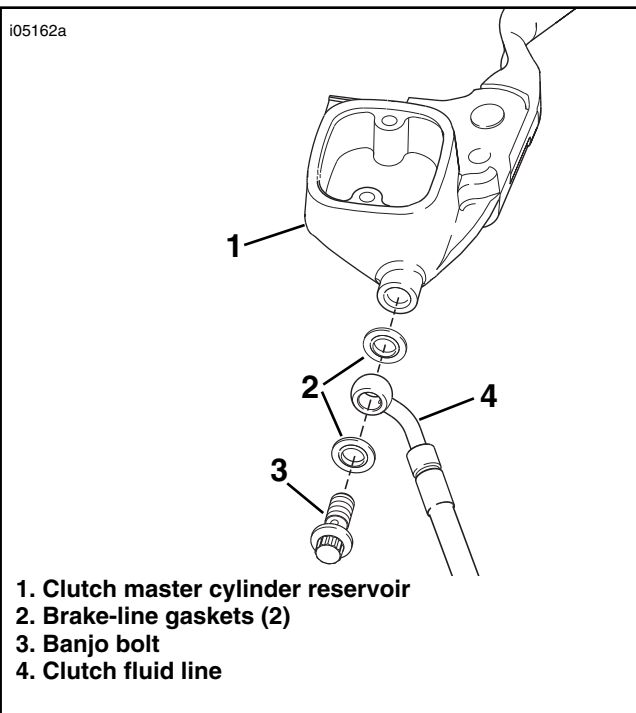

Figure 8. Clutch Fluid Line Installation at Reservoir
- See Figure 8. Obtain the following items:
- The clutch-fluid line (4) selected for your model
- The banjo bolt (3) and new brake line gaskets (2) from the kit